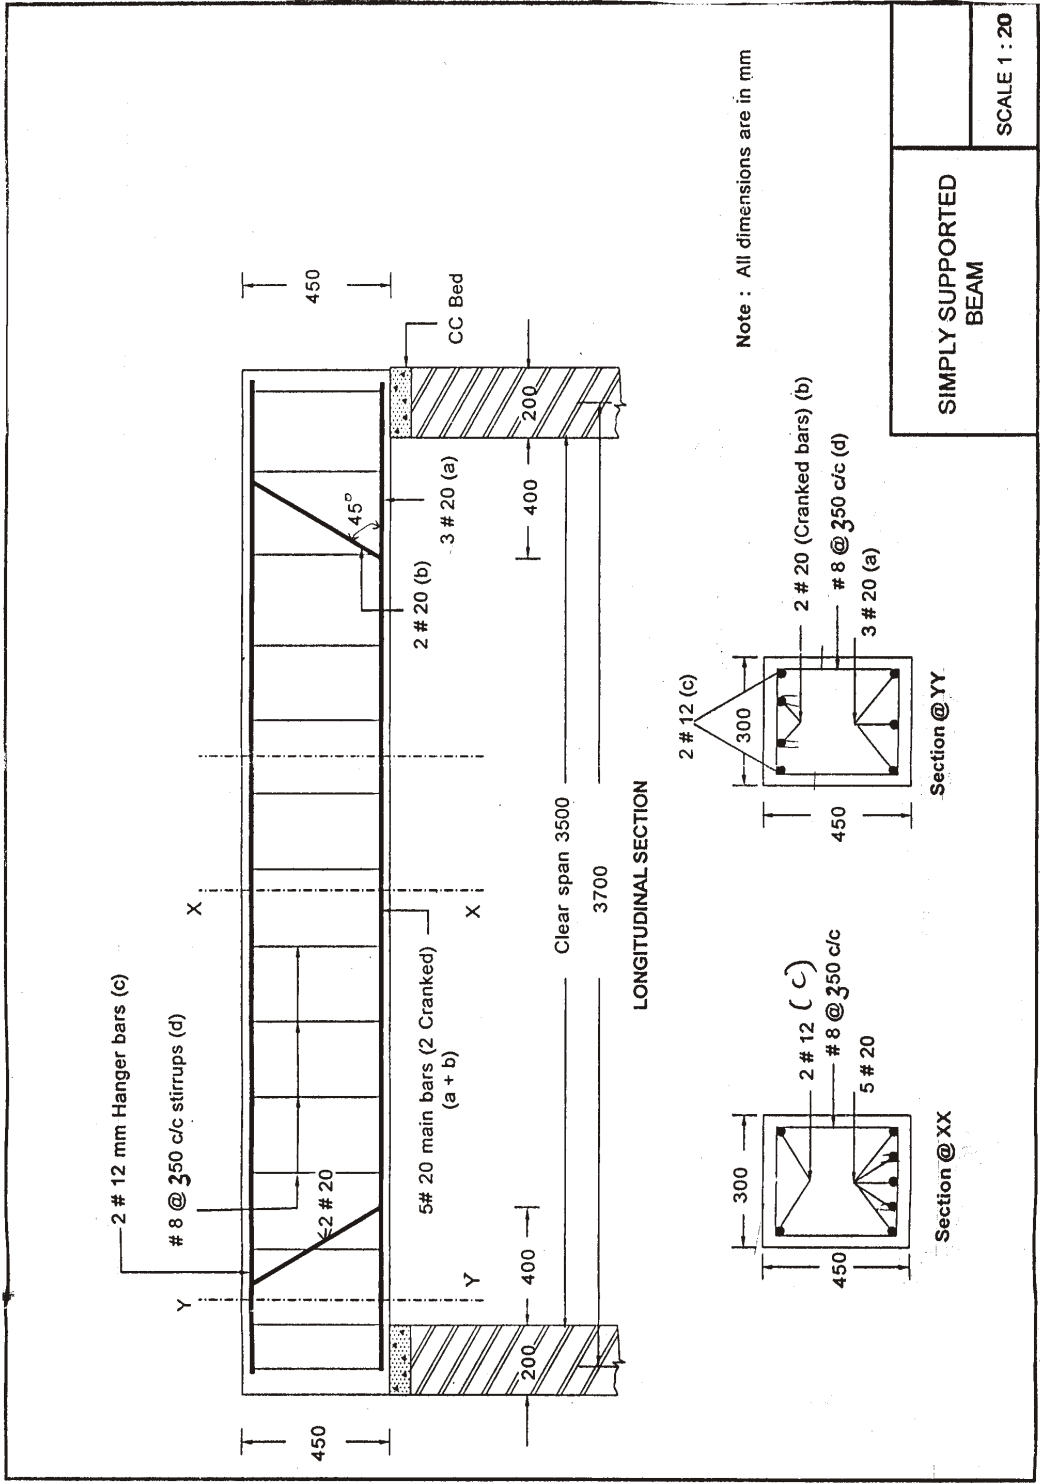

Fig. 2
- 4.** The longitudinal section and cross-section of simply supported beam is given in Fig. 2 (Page 5). Prepare the barbending schedule and workout the total quantity of steel :